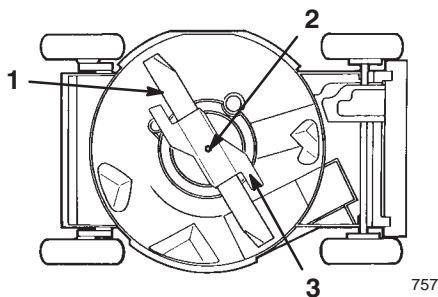

Figure 18
4. Tip the lawn mower onto its **right** side (air cleaner up) (Fig. 18).
2. Remove the blade bolt, the lockwasher, the accelerator, and the blade (Fig. 18).